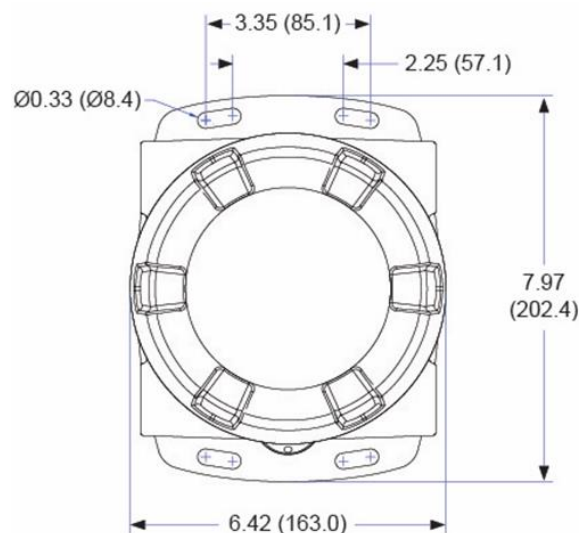
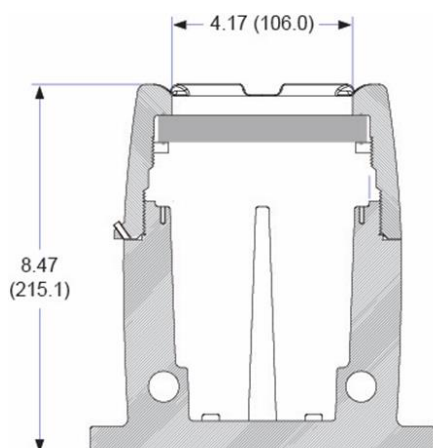

Figure 1. Enclosure Dimensions – Front View
Figure 2. Enclosure Dimensions – Side Cross Section View
Refer to *Figure 1* and *Figure 2* below.
- Prepare a section of wall approximately 7.0" x 8.5" (178 mm x 216 mm) for meter mounting by marking with a pencil the mounting holes (shown in *Figure 1*) on the wall.
- Select the appropriate mounting screws for the mounting surface to be used. The mounting holes diameter is shown on *Figure 1*.